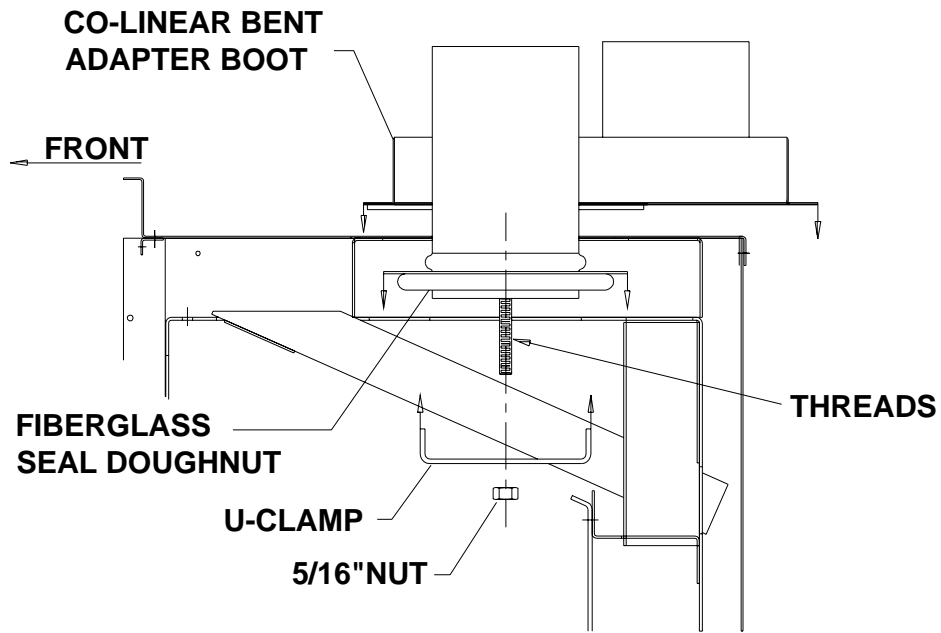

FIGURES 7
20. VENT BOOT ADAPTER INSTALLATION: (SEE FIGS. 7 & 7A)